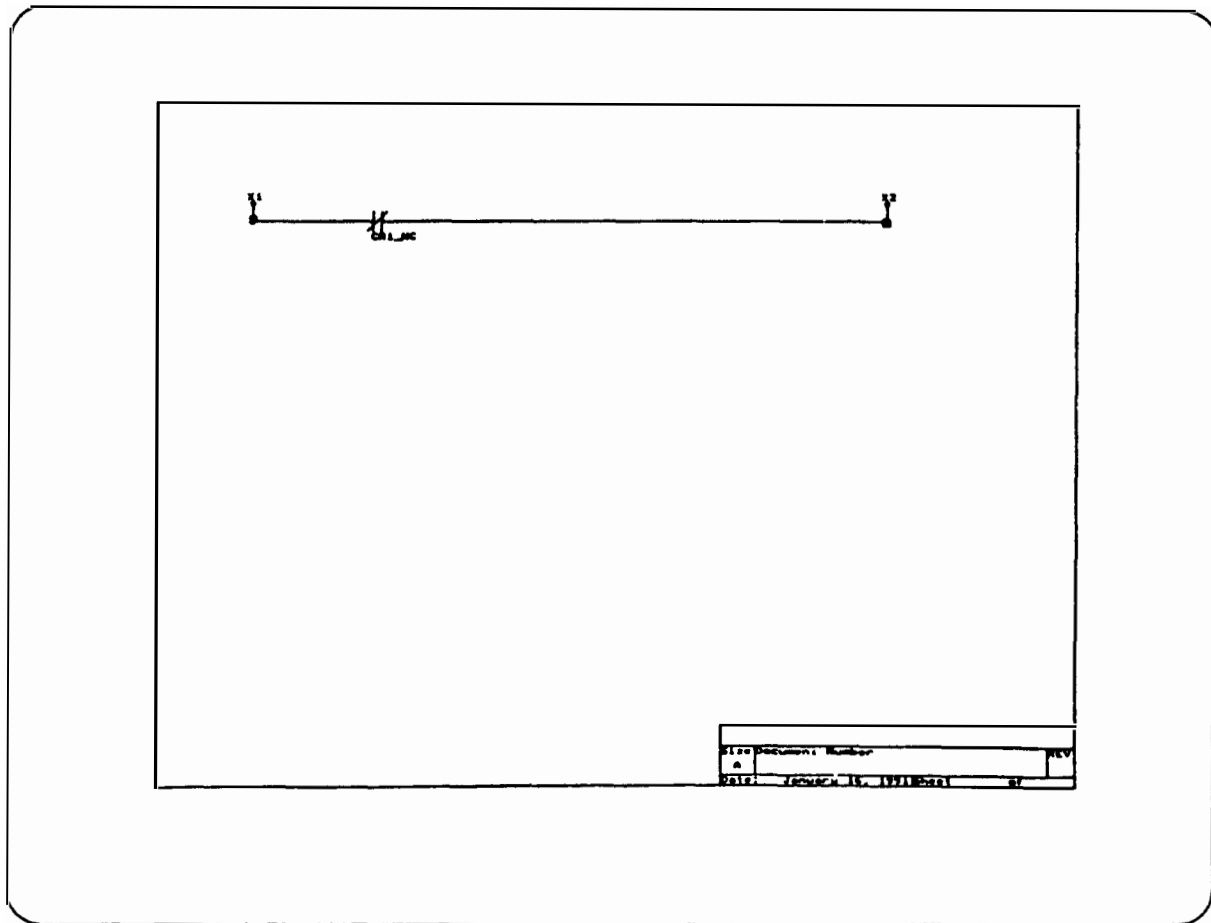

Figure 4-8.
27. Select PLACE then JUNCTION to complete ladder as in Figure 4-8.